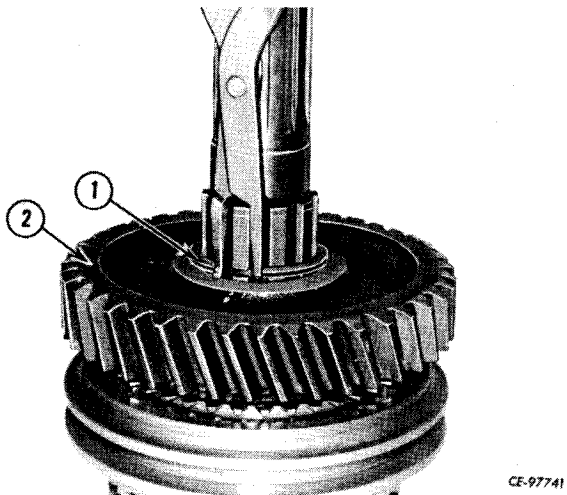

Figure 4-50
Install 1st speed gear (2, Fig. 4-50) on main shaft and install snap ring (1).